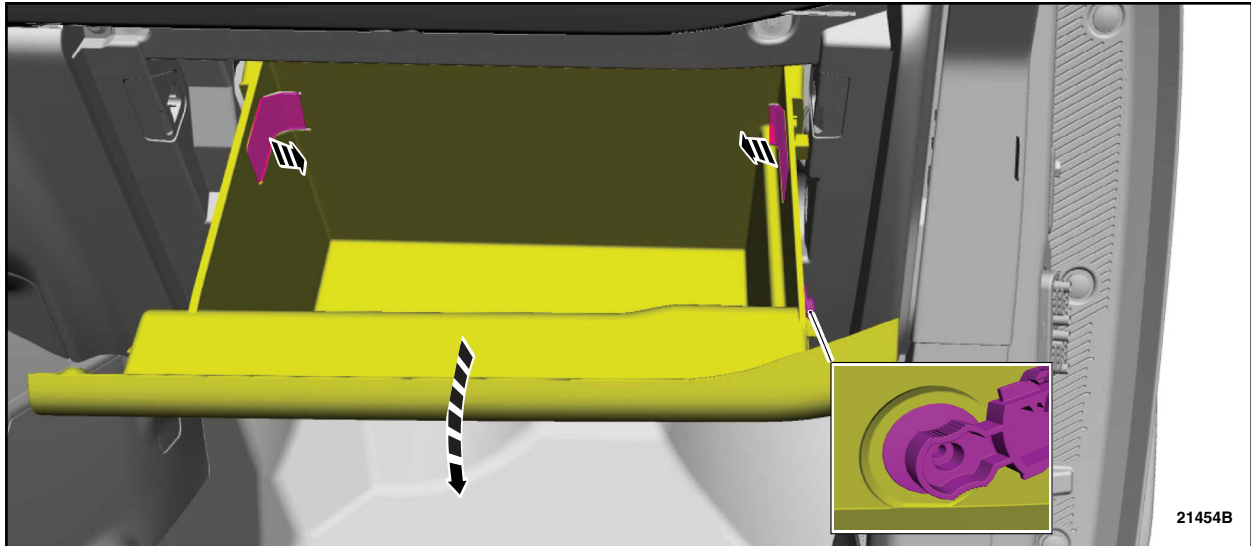

FIGURE 2
3. Open the glove compartment, remove the dampener, and release the stop tabs and fully lower the glove box. See Figure 2.